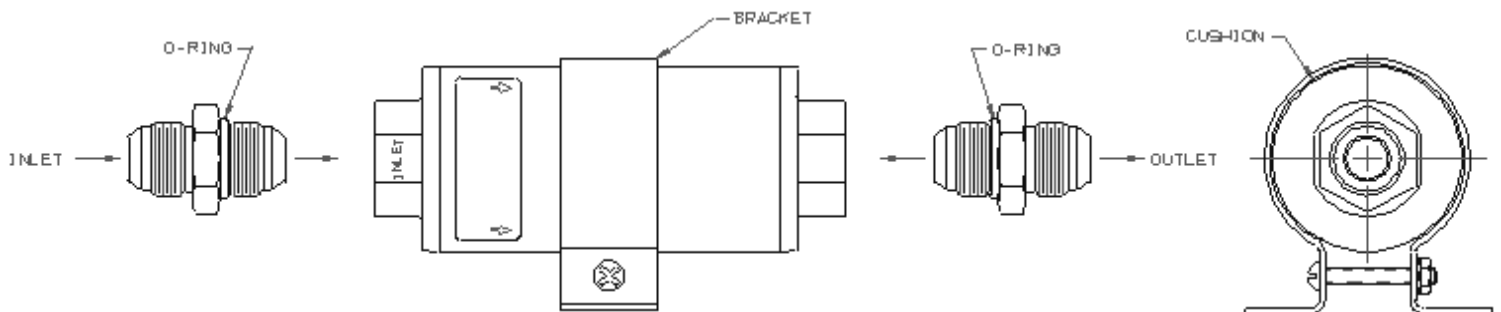

Figure 1 – SX Performance™ Model 41002 Filter Assembly
4. Install the o-rings and fittings as shown in Figures 1.
5. Assemble the bracket, cushion, and filter as shown in Figures 1. Ensure that the filter is installed in the proper direction as indicated by the inlet and flow arrows.